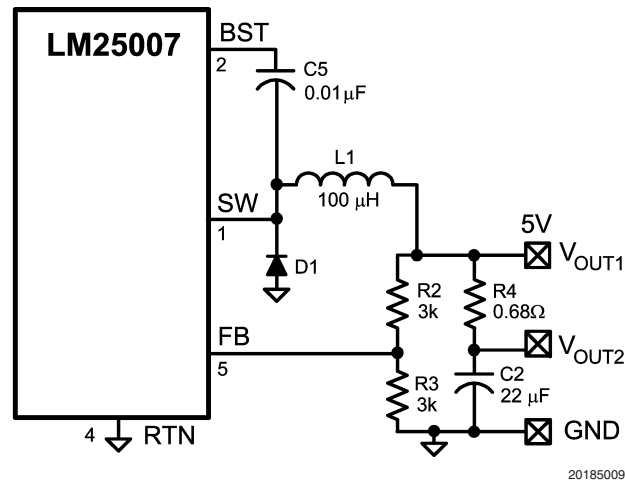

FIGURE 4. Minimum Cost Configuration
C) Minimum Cost Configuration: This configuration is the same as option B above, but without C6. Since 25 mV_{p-p} are required at the FB pin, R4 is chosen to generate 50 mV_{p-p} at V_{OUT1} , knowing that the minimum ripple current in this circuit is 75 mA_{p-p} at minimum V_{IN} . To allow for tolerances, 0.68 Ω is used for R4. The resulting ripple at V_{OUT1} ranges from ≈ 50 mV_{p-p} to ≈ 100 mV_{p-p} over the input voltage range. If the application can accept this ripple level, this is the most economical solution. The circuit is shown in Figure 4.